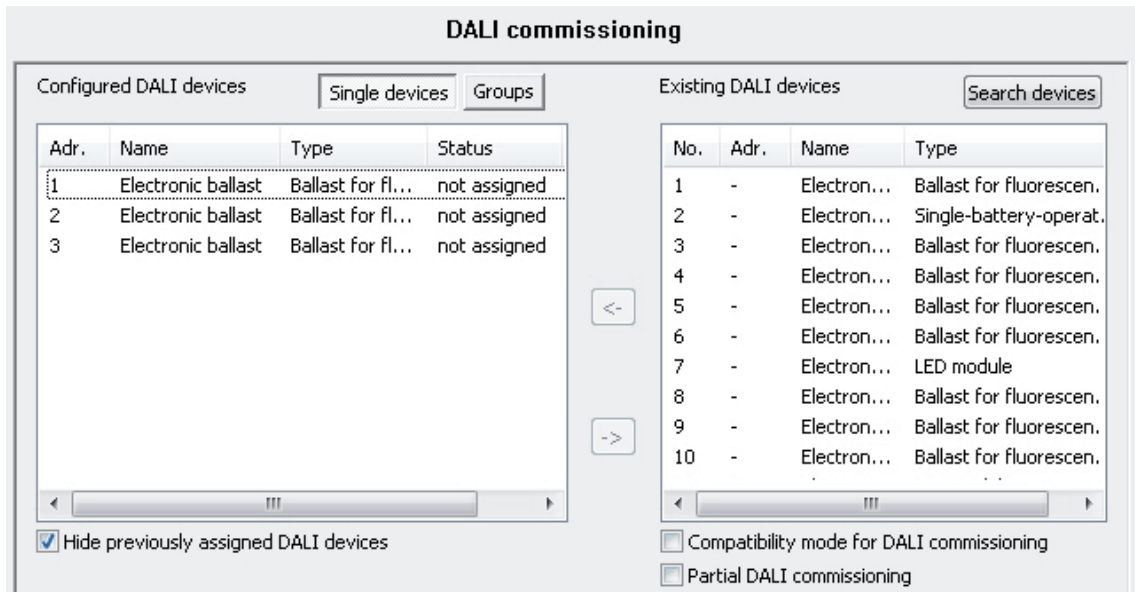

Figure 72: Operating device assigned to a programmed single device
- In the right-hand section, the assigned operating devices disappear from the list box. The status of the selected single device in the left-hand subarea switches to "Assigned".(Figure 72). The right-hand pane contains only the remaining, not yet assigned operating devices.